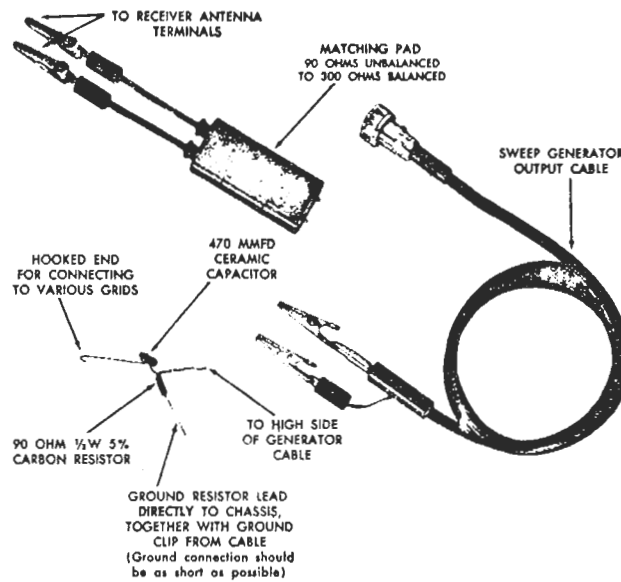
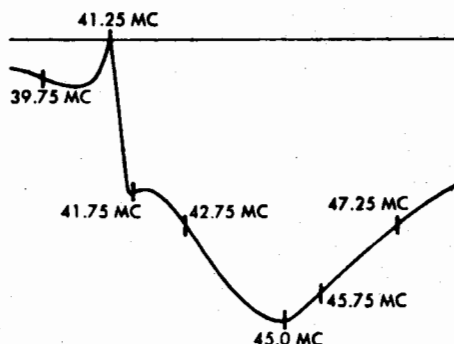

Figure 1 - Typical IF-RF Alignment Fixture
Figure 5 - Typical Response Curve of Last IF Stage Taken at Test Point C1.
This equipment must be capable of producing sweep and marker frequencies through the IF and RF ranges. The sweep width must be variable up to at least 8 megacycles for satisfactory display of the various response curves. Attenuation to approximately .1 volt output is also desirable to prevent overload and possible distortion of the patterns during alignment. The output impedance should be 300 ohms, or properly matched to 300 ohms. A typical matching pad and "fixture" is shown in Figure 1.
Connect negative lead of Bias Supply to tuner AGC bus, positive lead to chassis (ground). Connect Oscilloscope through a 10K (isolation) resistor to test point B (on tuner). Connect Sweep and Marker Generator output cable(s) to antenna terminals. Use matching pad similar to that shown in Figure 1 if matching device is not provided.
3. Couple the sweep and marker signals (using the resistor and capacitor assembly shown in Figure 1), to test point G (input to 3rd IF stage). Adjust Sweep Generator for approximately 6 megacycle sweep (center frequency approximately 43.5 mc). Detector output should not exceed 6 volts peak-to-peak. Sweep pattern should approach that shown in Figure 5.